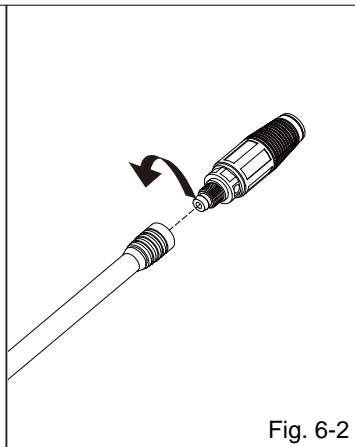

Fig. 6-2
- Connect black soap nozzle to the wand connector. *(See Figure 6-2.)*